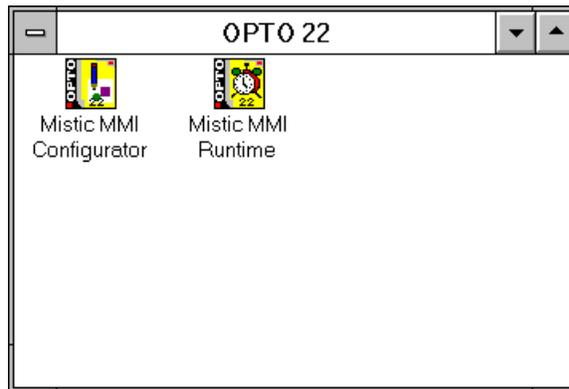

Figure 2-1: Opto 22 Program Group
7. When installation is complete, the program group "Opto 22" is displayed and contains two icons as shown in Figure 2-1.